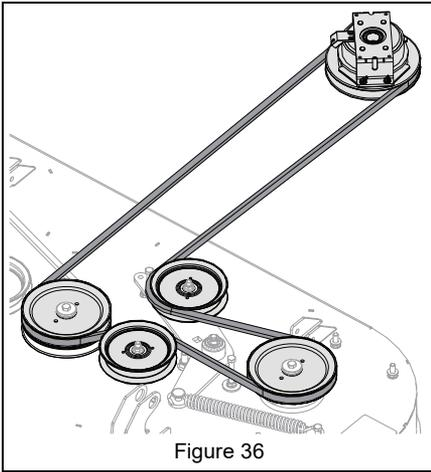

Figure 36
**IMPORTANT:** Make sure belt has tension and is aligned in all pulleys. See Figure 36.